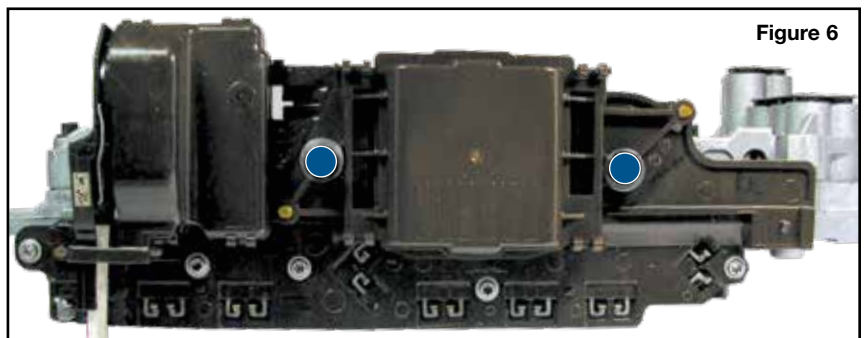

Figure 6
- Remove the two 8mm head bolts on the side of the TEHCM (Figure 6).
- b. Place the TEHCM on the valve body. Install the two 8mm head bolts and *hand-tighten only* (Figure 6).